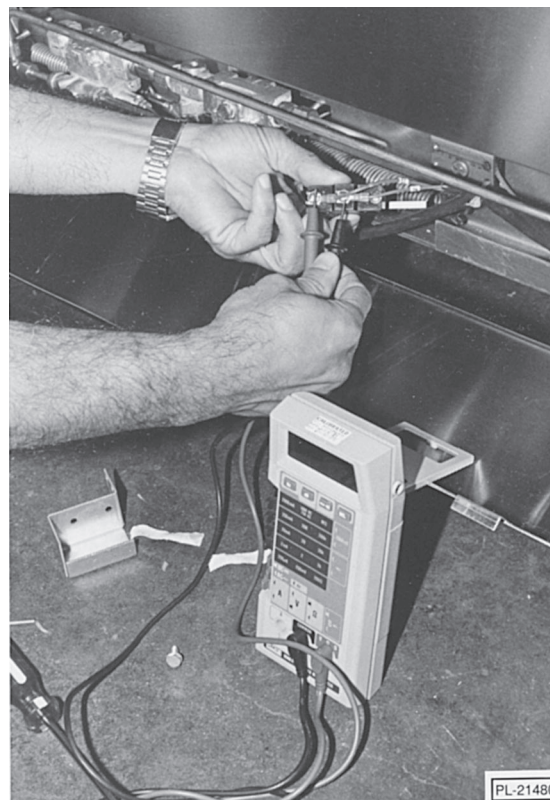

Fig. 50
- Using a volt meter, check the voltage reading between the normally open and common contacts of the micro switch (Fig. 50) under the following conditions: